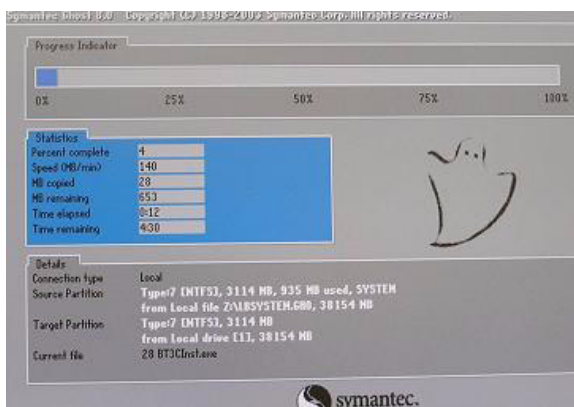

Figure 3-25 System CD loading
7.) System CD will be loaded as shown in Figure 3-25 on page 3-29 .